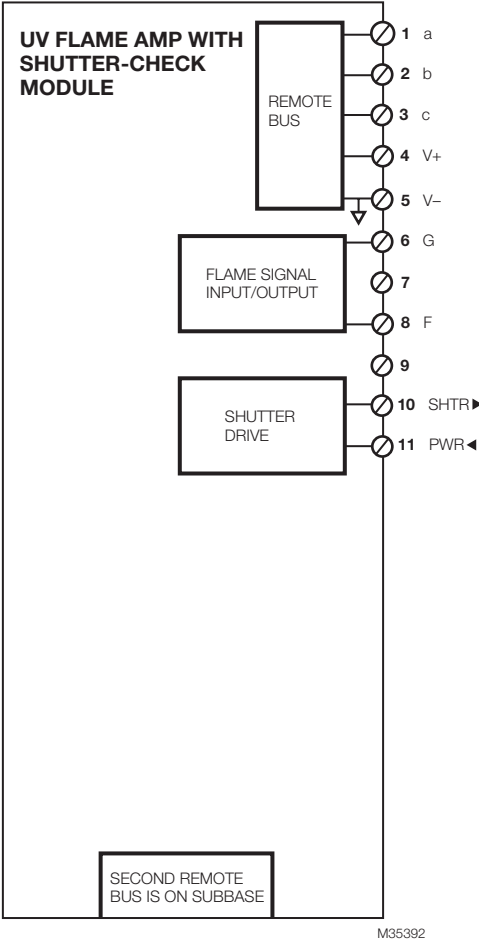

Fig. 4. R8001S1051 SLATE UV Shutter-Check Flame Amplifier wiring.
1. Refer to Fig. 4 for proper flame detector wiring.
- (1)** Enclose scanner wiring without armor cable in metal cable or conduit.
- (2)** Follow flame detector Instructions.
- 6.** Check wiring, see Fig. 4.